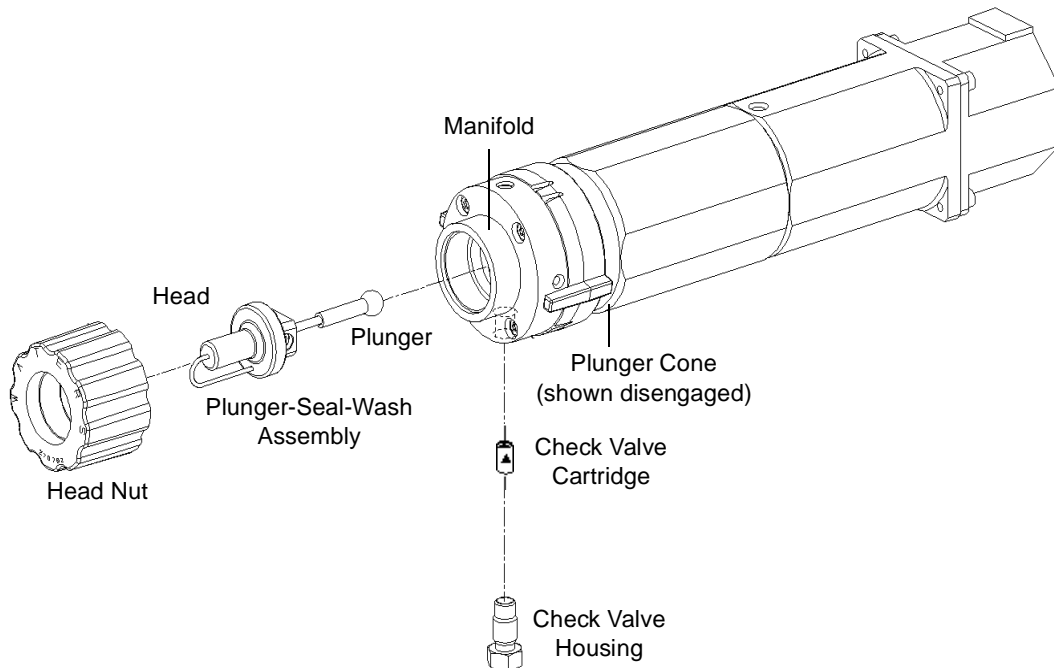

Figure 7-2 Solvent Management System Piston Chamber Components (Exploded View)
Figure 7-2 shows the head, head nut, plunger, seal wash assembly, and check valve assembly of each solvent delivery piston chamber. For a list of replacement parts, see Appendix B, Spare Parts.
1. Slide the seal wash housing with washer onto the new plunger, then insert the assembly into the head (Figure 7-2).